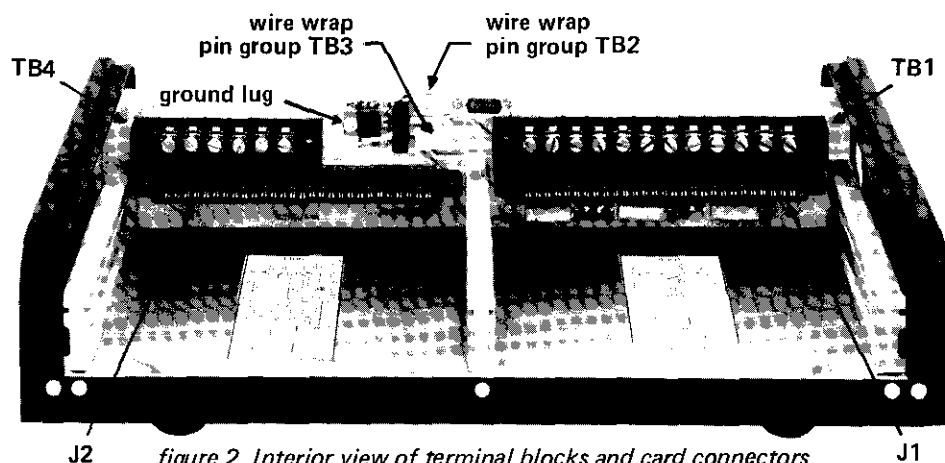

figure 2. Interior view of terminal blocks and card connectors
Note: *When making these and all other connections to the 265A Assembly, run all wiring through the grommeted access hole. Refer to the 265A wiring diagram (section 5) and the view of the 265A Assembly showing the terminal blocks (figure 2) for wiring details.*
3.04 Connections from the associated telephone set to the 265A Assembly are made to terminals 1 through 8 of terminal block TB1, the 12-terminal block on the Assembly's printed circuit board (see figure 2). TB1 has wire-wrap terminals on one side of the printed circuit board and screw terminals
Assembly's power supply, a lead must be connected from terminal 6 of *TB4* to the loudspeaker. Finally, a loudspeaker ground lead must be connected to terminal *GND* or the positive (+) terminal of wire-wrap pin group *TB3* or to chassis ground. Refer to figure 2 and the System wiring diagram (section 5) as necessary.